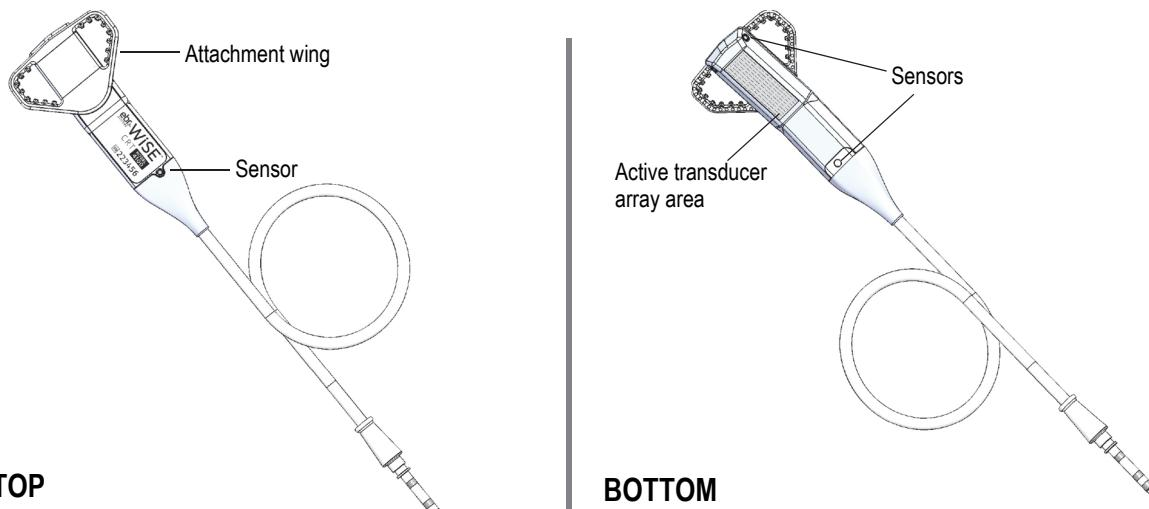

Figure 17: Transmitter Model 4100, top and bottom views
- One Transmitter with a permanently integrated cable. Figure 17 illustrates the Transmitter's top and bottom views.